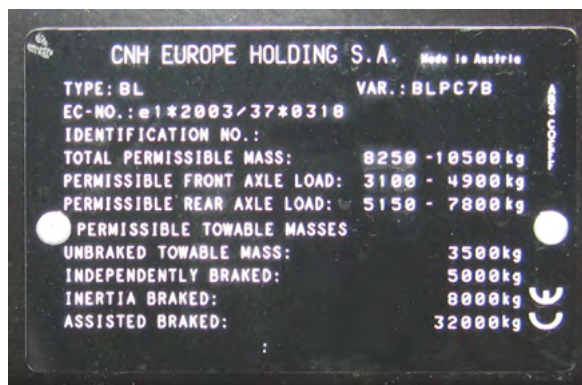

Figure 19: Image of a manufacturer's plate fitted. (RSA Library Image)
In no instance can you draw a trailer with a laden weight which exceeds the manufacturer's rated towing capacity of your tractor as detailed on its manufacturer's plate. An example of a manufacturer's plate is shown in Figure 19 below. This example shows that the vehicle has a towing capacity of 32,000kg provided the trailer is fitted with an assisted braking (that is, hydraulic or pneumatic) system.
8. Why are there a range of weights shown in Figure 19 above for the total permissible mass and permissible axle loadings?
10. My agricultural tractor is plated, but not with a manufacturer's plate like the one shown in Figure 19 above indicating its 'Permissible Towable Masses'. What rules must I follow regarding the maximum laden weight of a trailer or piece of interchangeable towed equipment that I can legally tow?